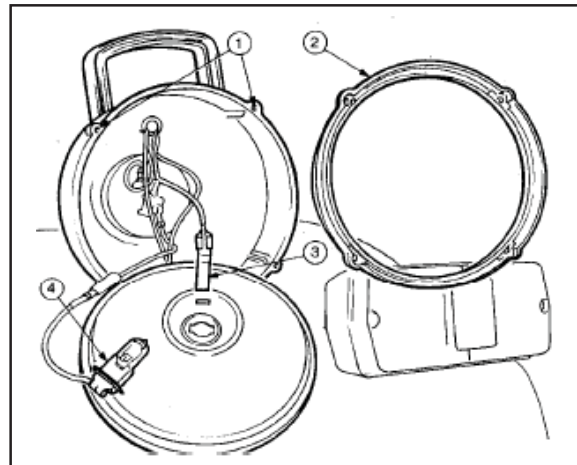

Fig.141
2. Remove the four screws (1, Fig. 141) and the rim (2).
4. Remove the spring clip (3) from the back of the bulb holder, then remove the bulb (4).